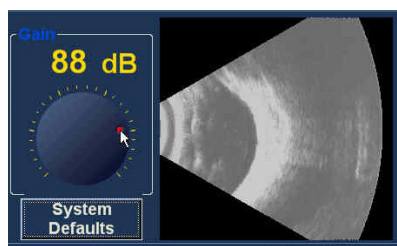

Figure 4.43 - Adjusting Gain
2. Drag the knob until the dB level (and the image visual) reaches the appropriate level as shown in Figure 4.43.